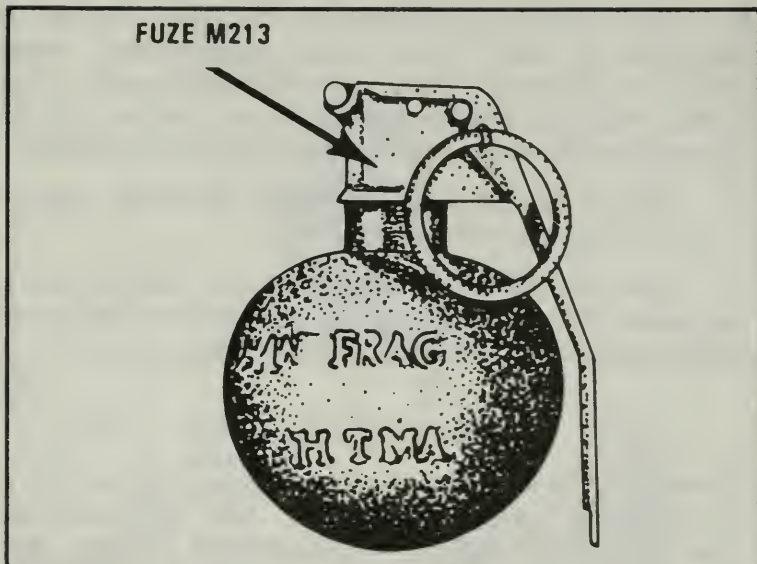

Figure 193. M67 fragmentation grenade.
(1) Fragmentation grenade with time-delay fuze (M67) (Figure 193). This grenade is your best all-round choice. It can be thrown more than 40 meters by most soldiers and will kill or injure exposed soldiers who are within 15 meters of the grenade when it explodes. With some practice, you should be able to throw the grenade to within 5 meters of a selected point 35 meters away from you or within a fighting position 2 meters wide at 20 meters range. Grenades thrown at those targets may hit and roll into the target area, but you should practice hitting the fighting position "on the fly" to destroy positions with frontal cover. Another technique that can be employed with this grenade is the cookoff. To cookoff a grenade, you release the safety lever and hold the grenade for a count of two. Do not hold it any longer. When the grenade is thrown, enemy personnel will not have time to pick it up and throw it back. If it